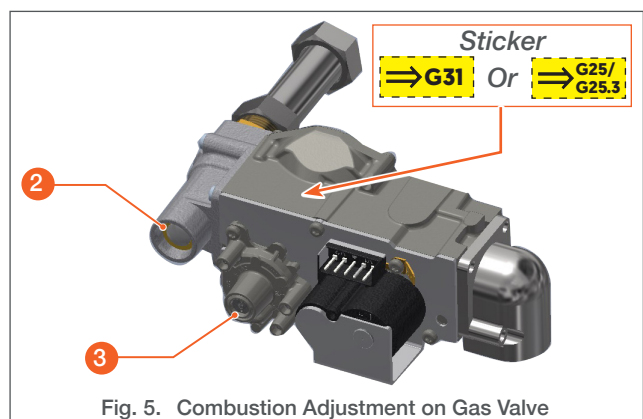

Fig. 5. Combustion Adjustment on Gas Valve
- ▶ On the gas valve (Fig. 5), place the yellow sticker indicating that a gas conversion has been carried out.